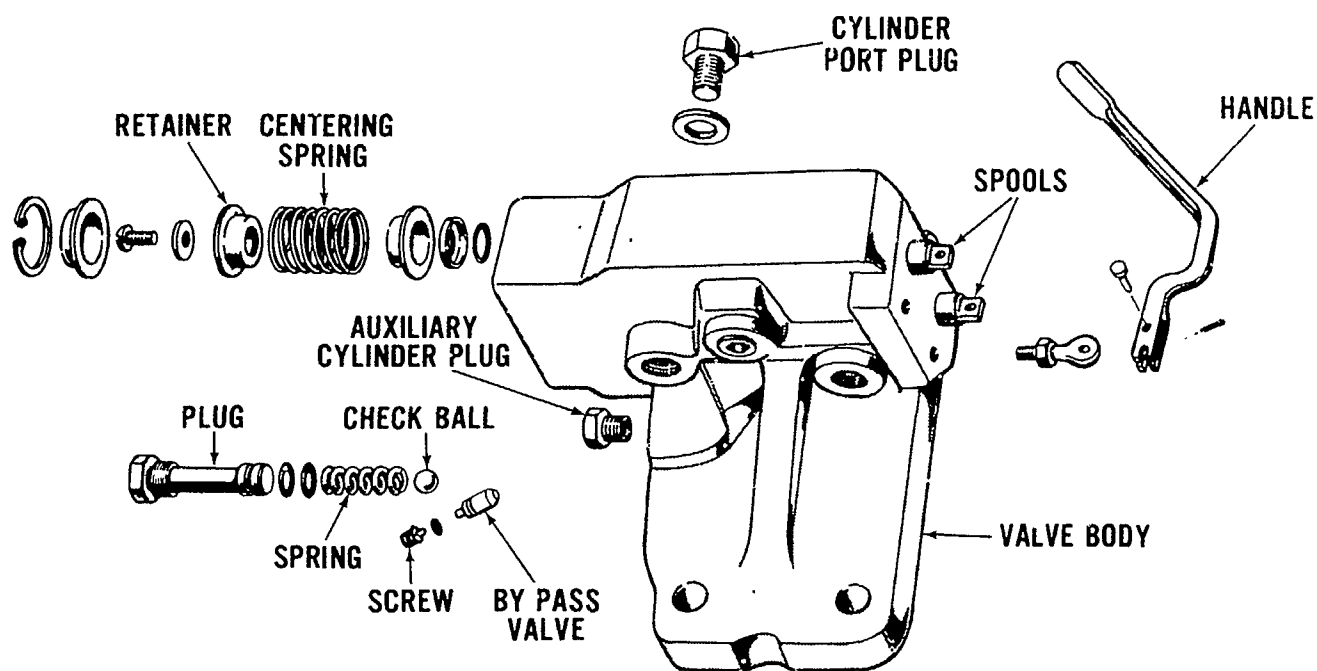
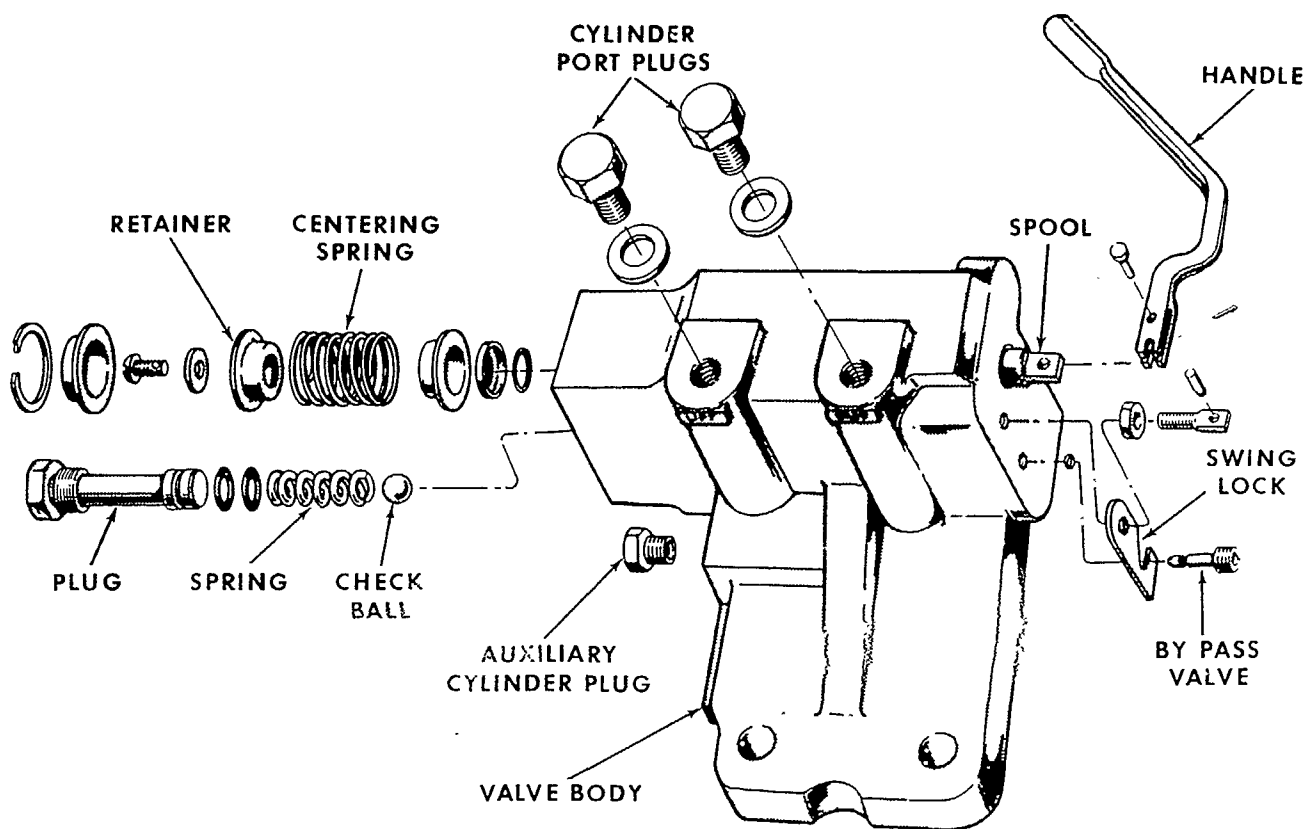

Figure 6
Figure 7
Before starting to disassemble the valve, study the exploded views carefully. Study the parts and their locations to simplify servicing the valves. See Figure 6 (Double Spool Valves) and Figure 7 (Single Spool Valves).
1. Loosen the jam nut, Figure 7, sufficiently to allow the swing lock to be removed.